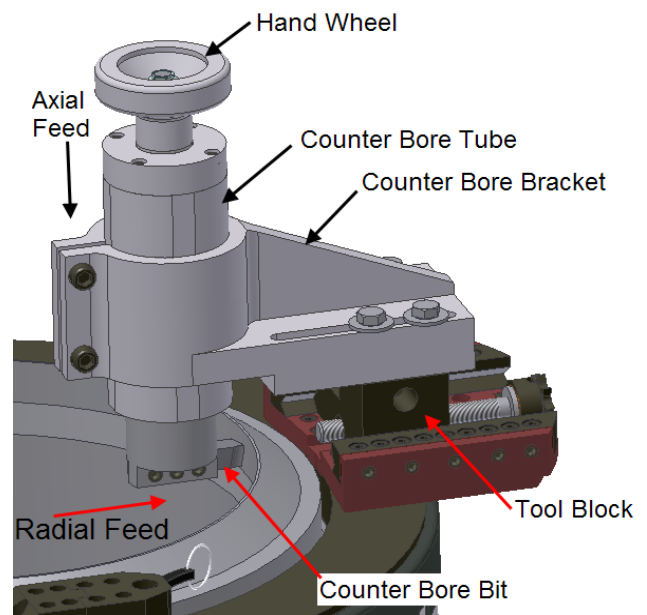

Figure 11
- Insert the counter bore bit into the counter bore bar. The cutting side of the bit should face the set screws in the bar (see Fig. 11). Adjust the counter bore tube height and lock into place. Use the star wheel wrench and the hand wheel to position the tool bit at the edge of the inner wall of the work piece.